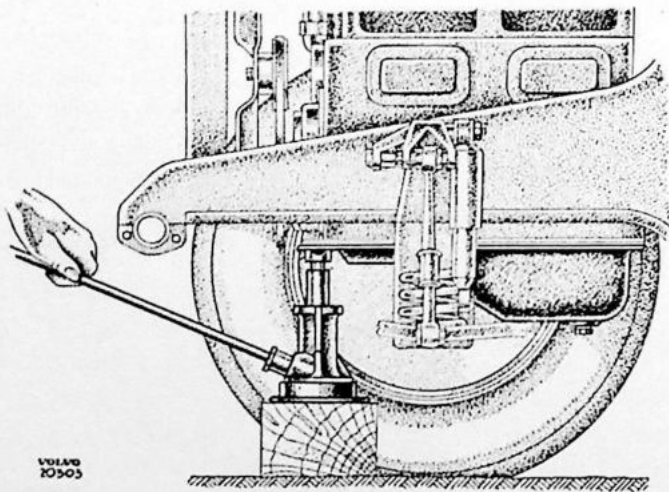

Fig. 35.
5. Lift engine with jack placed at front end of engine, Fig. 35.